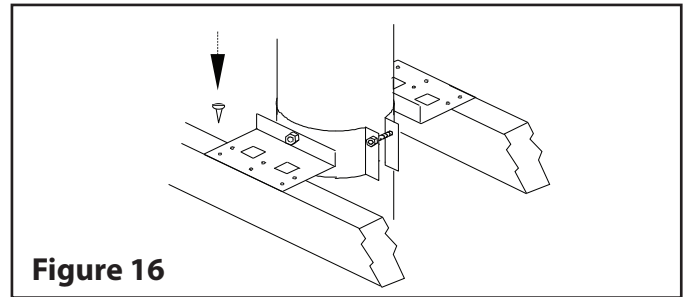

Figure 16
Step 1. **(USA ONLY)** Install the roof radiation shields in the roof joists. These shields consist of four metal plates. Nail one plate to each side of the joist using (2) 2-1/2" nails.
Step 3. Slip the assembled Roof Support down over the stainless steel chimney until its brackets rest on the roof or floor. Tighten the collar around the chimney, (see Figure 16).
Step 4. Center the chimney and nail or screw the support to the roof or floor using (8) - 2-1/2" nails or (8) N^o. 8 - 1-1/4" wood screws. (Figure 16).